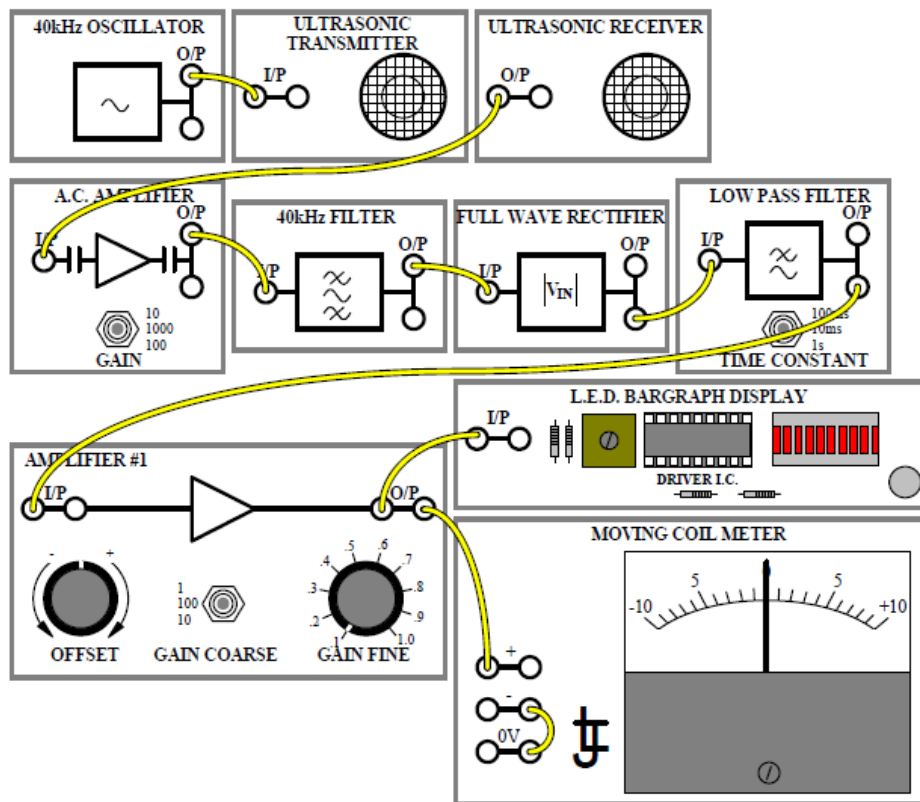

Fig 11.9
1. Connect the circuit as shown in Fig 11.9. Set the AC Amplifier gain control to 1000 and Amplifier #1 GAIN COARSE control to 10 and GAIN FINE to 0.5. Switch the Low Pass Filter time constant to 100ms.